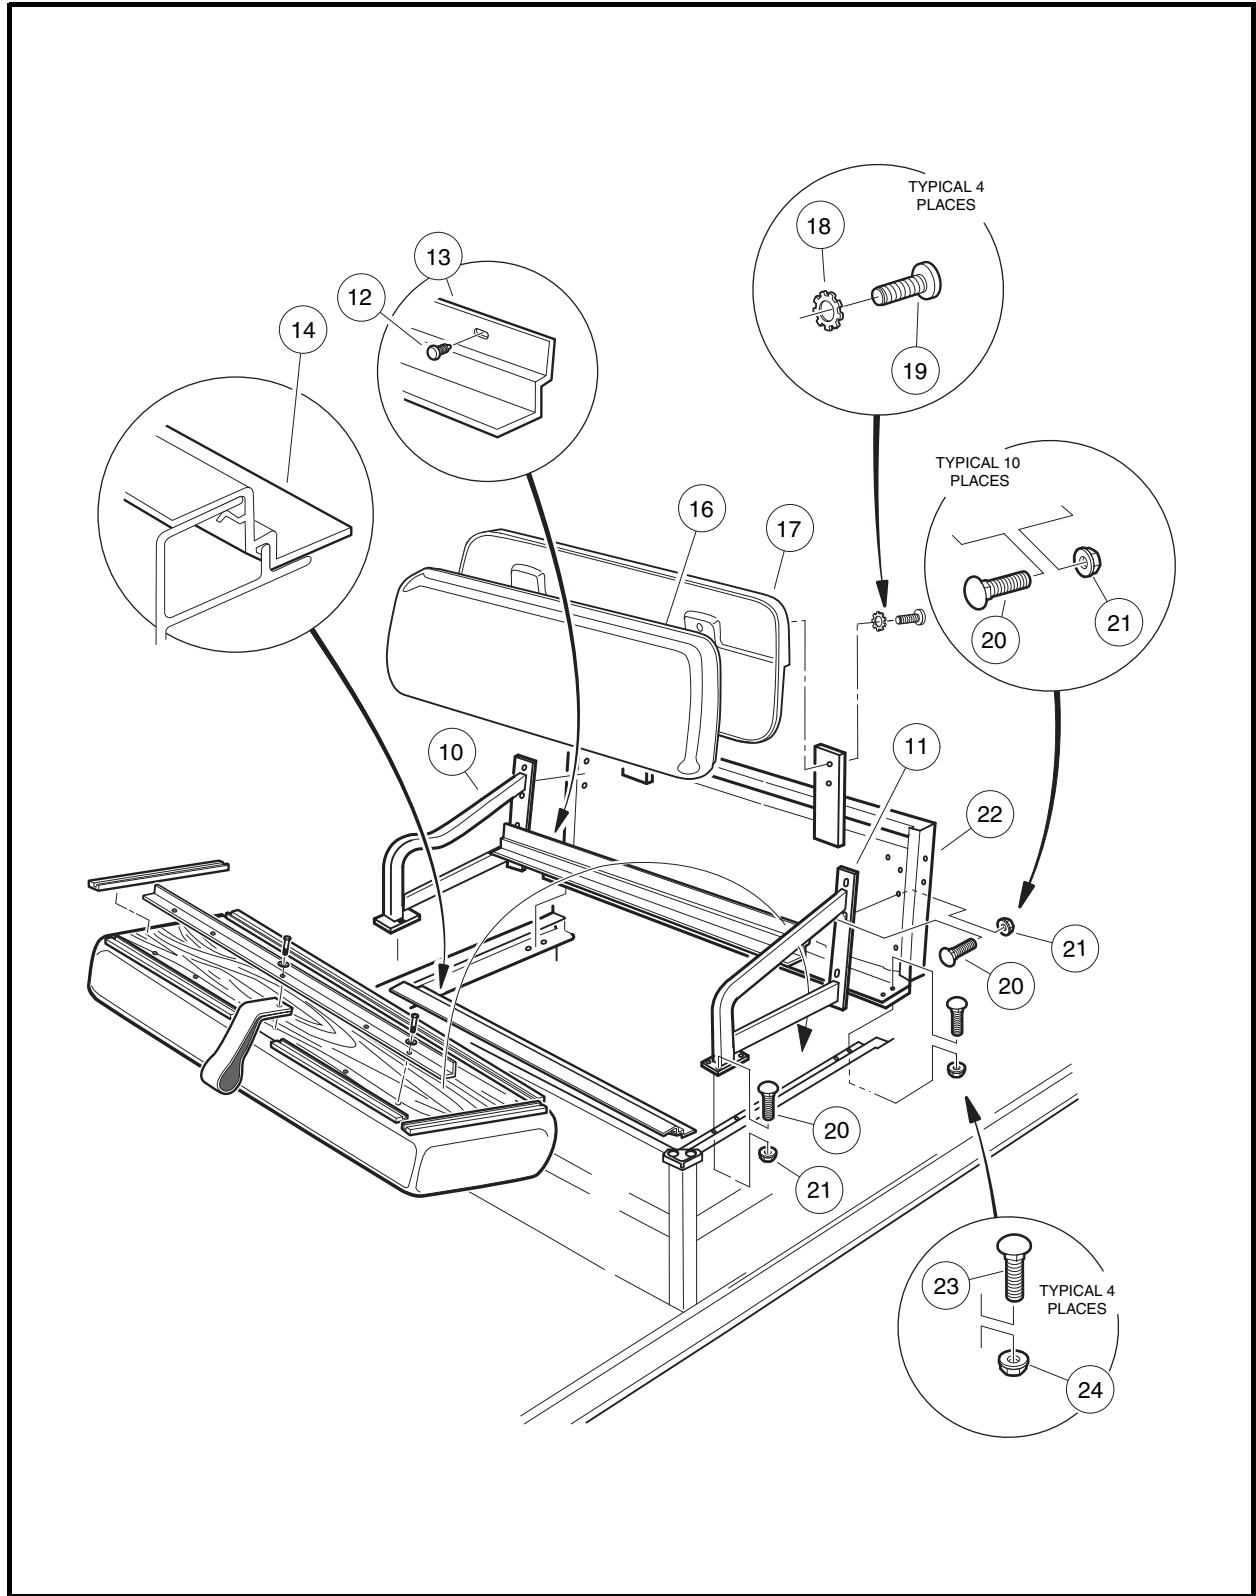

Figure 4-4 Carryall 472/XRT 1200 SE Rear Seat Support
2. Remove eight 1/4-20 flange nuts (21) and eight 1/4-20 x 3/4-inch carriage bolts (20) and remove arm rests (10 and 11) (**Figure 4-4, Page 4-10**).
3. Remove four 1/4-20 x 1 inch, phillips drive, truss-head machine screws (19) and lockwashers (18) from seat back support (22) and remove seat back (16) and seat back cap (17).
4. Remove four 5/16-18 flange locknuts (24) and four 5/16-18 x 3/4-inch carriage bolts (23) and remove seat back support (22).
5. Remove seat bottom rear trim (13) by pushing-out, from the back of the seat back support (22), five plastic barrel connectors (12).
6. Remove the seat bottom front trim (14) by lifting the lower inside flange slightly across the entire seat area. Push the trim toward the rear of the vehicle, allowing the top flange to slide away from the seat frame toward the rear of the vehicle.